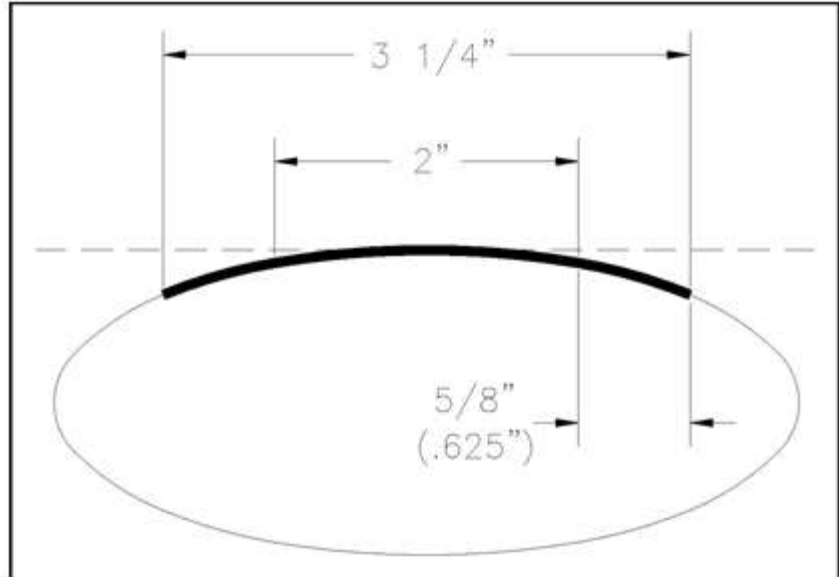

Figure 27 Fast Rise/Flat Area Estimation
1. Apply a label to the product by hand. Consider the profile of the product and estimate the distance from the beginning of the label (start of Fast Rise Length) to the start of the Flat Area Length (end of Fast Rise Length). Refer to *Figure 27*.
7. The estimated Flat Area Length is the label length less two times the estimated Fast Rise Length. See *Figure 27*.